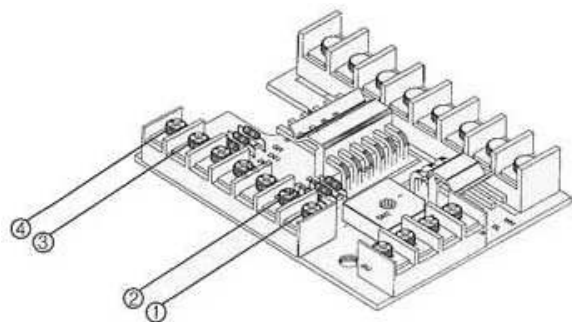

Fig 4
- 3) When AX & BX are properly operating, Check whether the voltage between ① & ② in Fig 4 should be DC 110V or DC 220V regardless of control voltage.